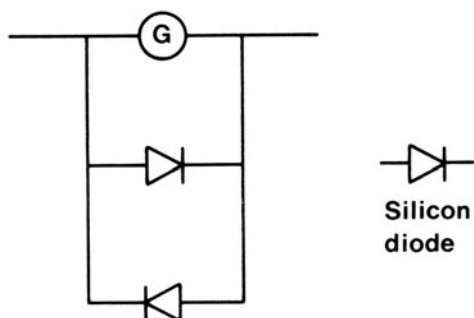

FIG. 3.59
- (b) Two such diodes connected as shown in Fig. 3.59 may be used to protect a sensitive galvanometer against electrical overload.